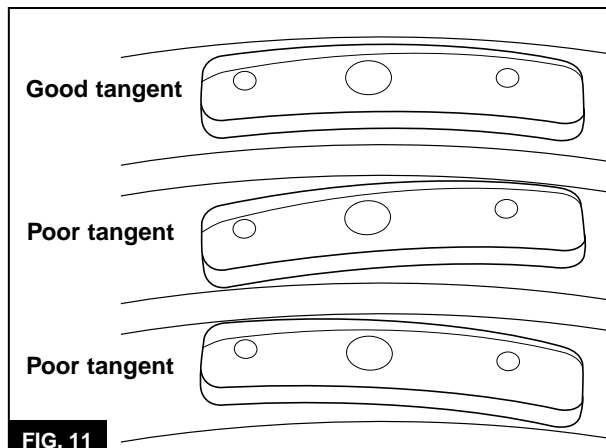

FIG. 11
Tangent alignment sets the position of the horizontal axis of the pad relative to the wheel rim. The distance between the top of the wheel rim and the top of the pad should be the same at each end of the pad. (**Figure 11**)
1. Look at each pad from the side, and note the position of the top of the pad relative to the rim. The distance from the top of the pad to the top of the rim should be the same at each end of the pad (**Figure 11**).